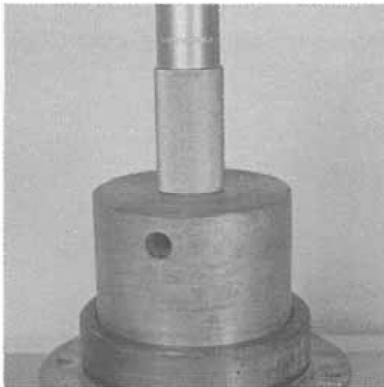

Figure 1:
2. Install the bearing cups into the counterbores of the bearing caps (Fig. 1) and the brake plate/bearing cap assembly.